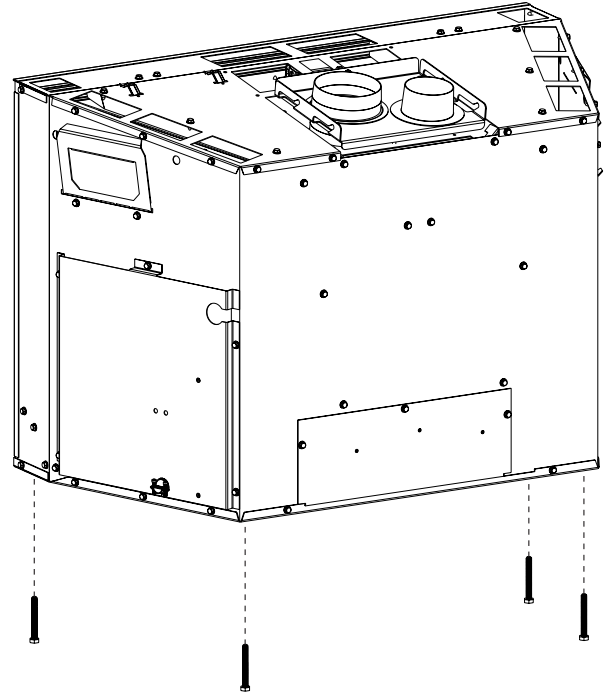

Figure 11
NOTICE: The minimum vertical vent rise is 10 feet and the maximum vertical vent rise is 40 feet. These dimensions are measured from the starting collars of the unit to the end of the last section of vent pipe. **See Figure 11**, page 17.
Figure 11 shows the vent termination cap and system approved for use with these models. Approved vent system terminations are labeled for identification. Use 3-inch diameter, flexible aluminum or stainless steel gas venting for the incoming combustion air. Use 4-inch diameter flexible aluminum or stainless steel gas venting for exhaust vent pipe. **No other venting systems or components may be used.** Detailed installation instructions are included with each vent termination kit and should be installed in conjunction with this manual.
7. Install leveling legs. **See Figure 11.**